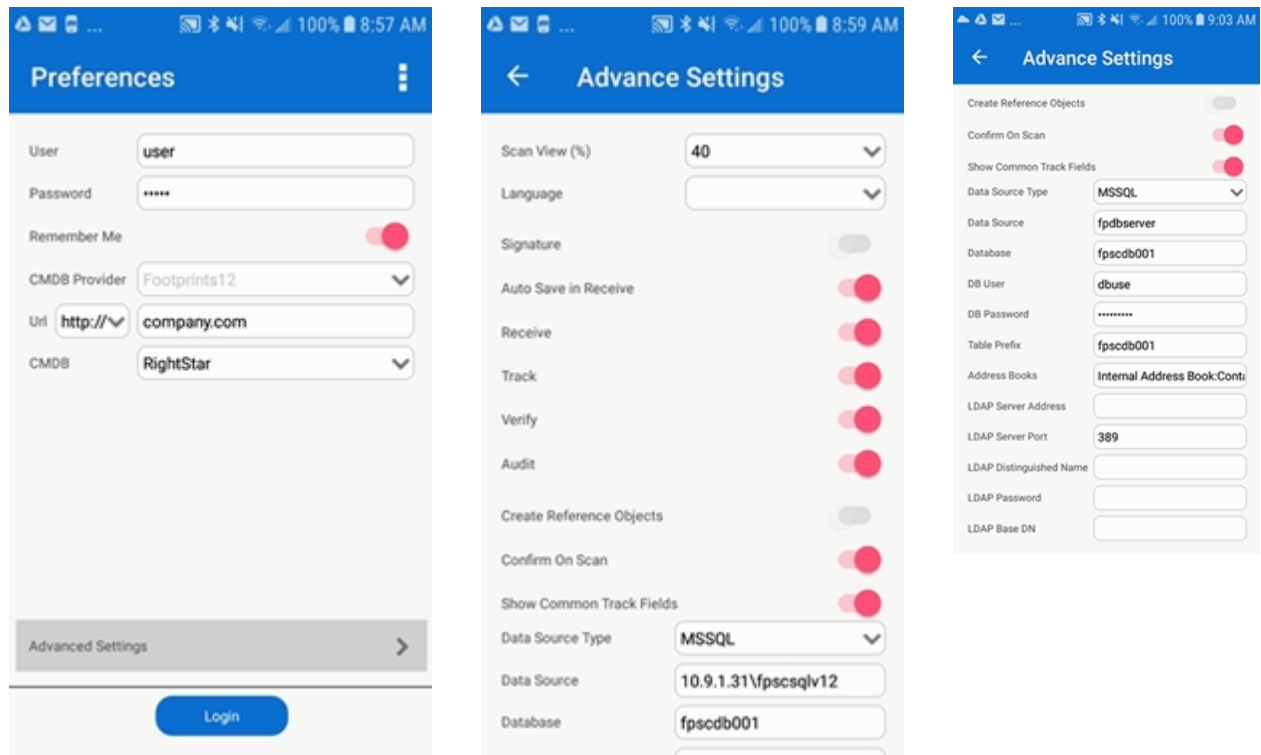

Figure 1
1. A database login with Footprints database (e.g. fpscdb001 in Figure 1) as the default database and default schema as **{Table Prefix}_system**. Where **{Table Prefix}** is the value from Figure 1. The login should be mapped only to the Footprints database.